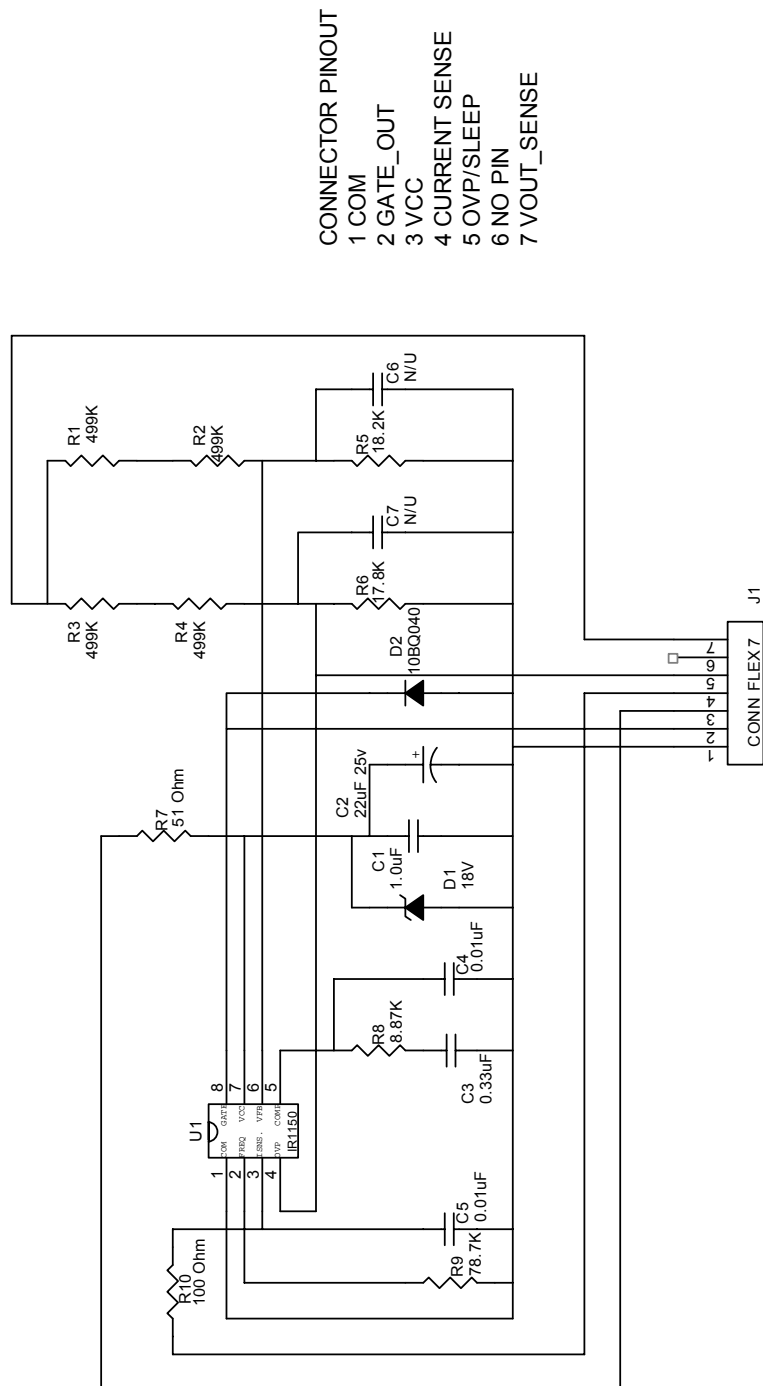
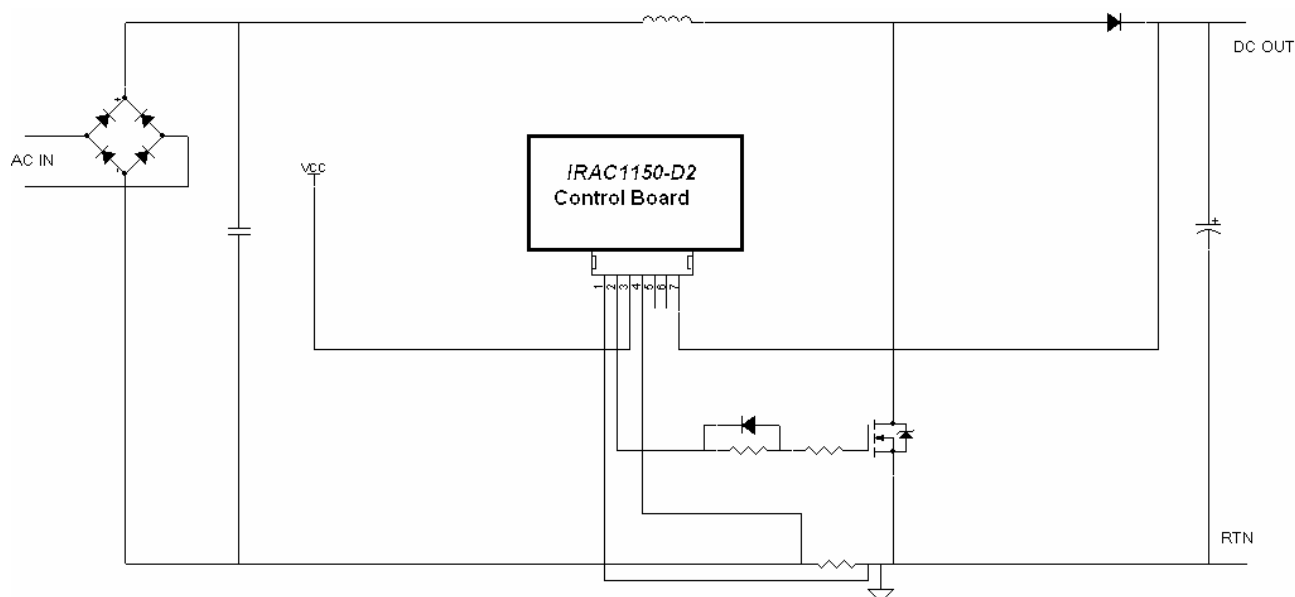
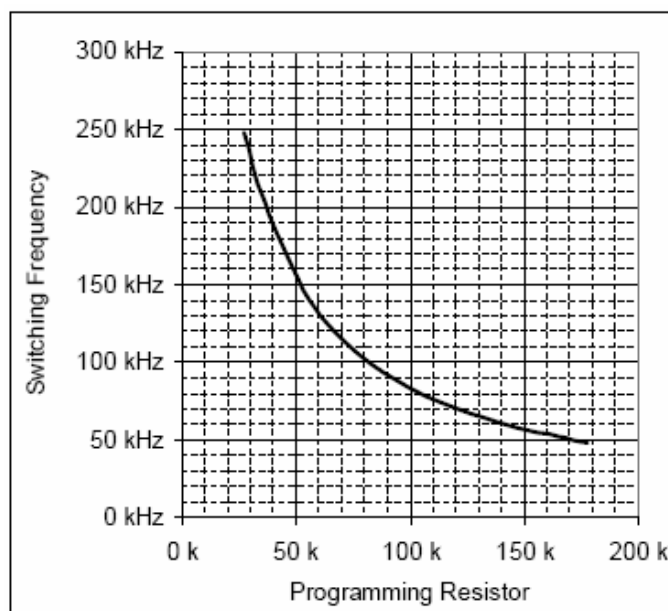

Figure 1 – IRAC1150-D2 Control Board Schematic Diagram
Figure 7 - IRAC1150-D2 Control Board Integrated into Existing Design
Figure 8 - Switching Frequency vs. Programming Resistor Value
The IRAC1150-D2 Control Board can be integrated into SMPS designs with minor circuit level modifications. Many components can be removed from the above design when using the IRAC1150-D2. System performance will be maintained while the number of required components and pcb space will be greatly reduced. The IRAC1150-D2 Control Board is integrated into the existing design as shown below in Figure 7. The board is designed for a V_{CC} range of 14VDC to 20VDC.
The IRAC1150-D2 provides voltage divider strings for both the output voltage error amplifier and the overvoltage protection comparator on-board, so pin 7 is connected to the output of the converter as shown in Fig. 7. In designs where resistor divider strings are present on the motherboard, the IRAC1150-D2 can be modified according to the following, (ref schematic Fig.1). Output voltage is set for a nominal 390VDC.
The switching frequency of the IRAC1150-D2 Control Board is user programmable. The default setting is 100kHz and can be changed by removing R9 (schematic, Fig.1) and replacing it with a value from the chart in Fig. 8, corresponding to the desired switching frequency. The IR1150 controller has a frequency range of 50 – 200kHz.
- An additional feature of the IRAC1150-D2 is the OVP/EN function, (pin 5), which is shown in the circuit of Figure 7 as not connected. This pin can be brought out into the circuit in order to initiate “sleep mode” feature of the IR1150S control IC.